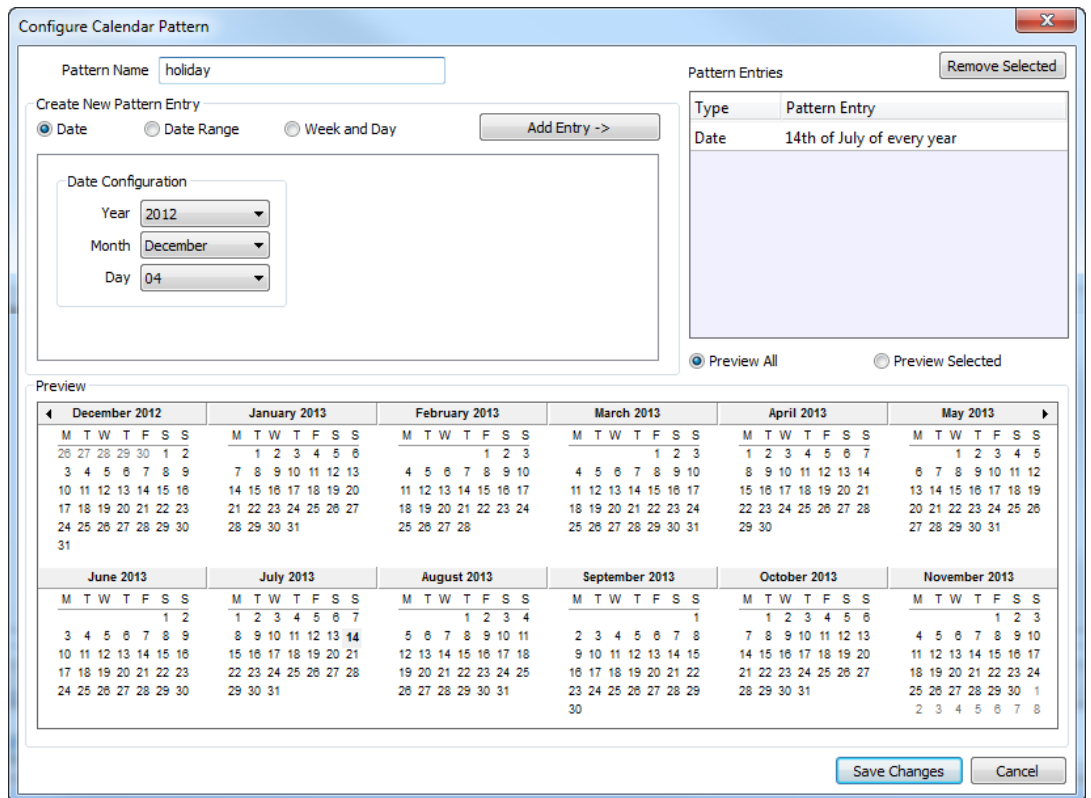

Figure 220: Configure Calendar Pattern Dialog.
4. The **Configure Pattern** dialog appears as shown in Figure 220. Add dates to the calendar pattern by entering a Date Configuration. Then click **Add Entry**. The date appears in the Pattern Entries list on the right-hand side.